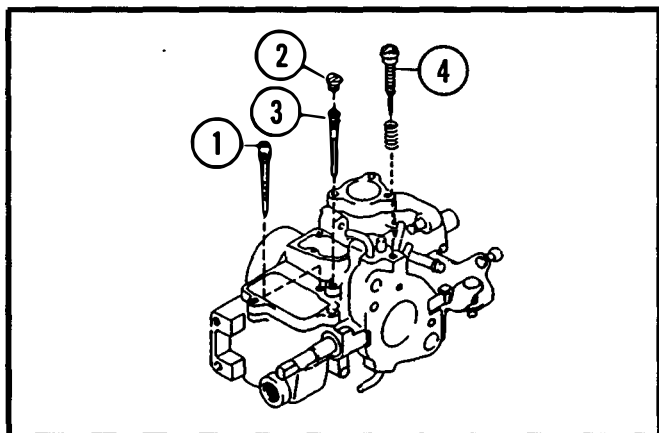

Figure 12.
1. Disassemble main air bleed, slow jet plug, slow jet and idle mixture screw. See Figure 12.